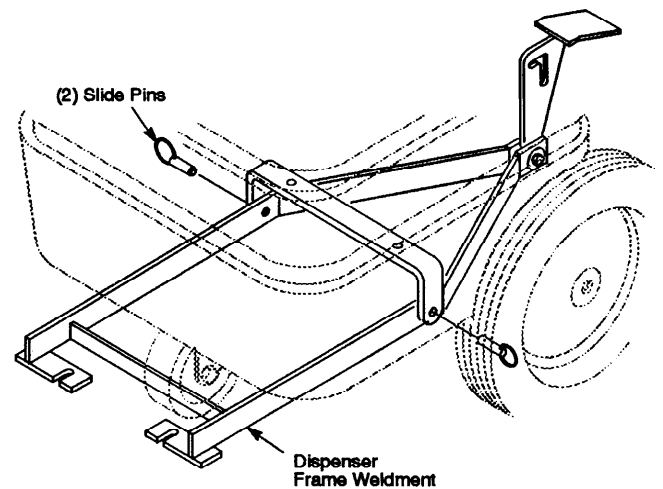

FIG. 3.
1. Place dispenser frame weldment under machine and fasten to mounting bracket that is factory installed. Use two slide pins as shown. (Figure 3)